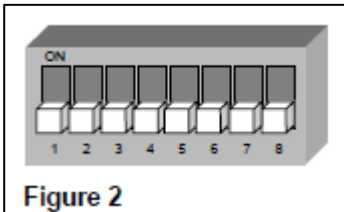

Figure 2
- DIP switch S1 should have all switches in the off position. (factory default) See figure 2.